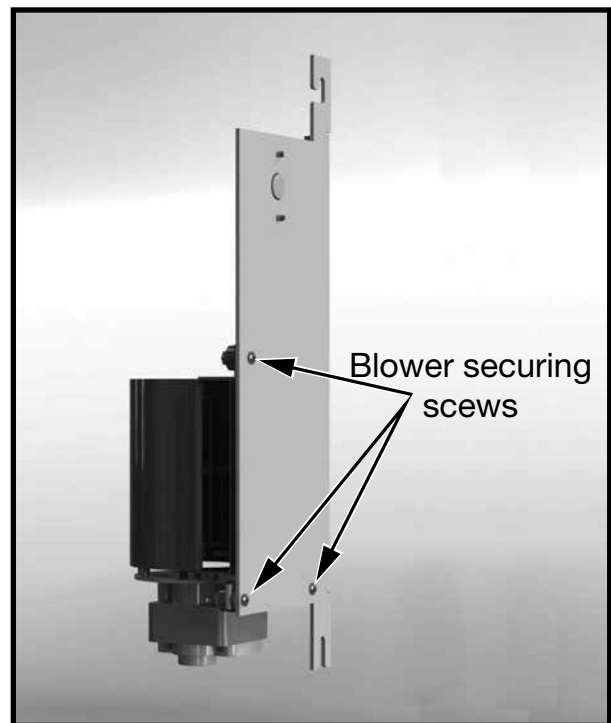

Figure 11: Blower mounting screws.
6. Remove the three screws securing the blower to the mounting bracket and replace the blower (Figure 11).